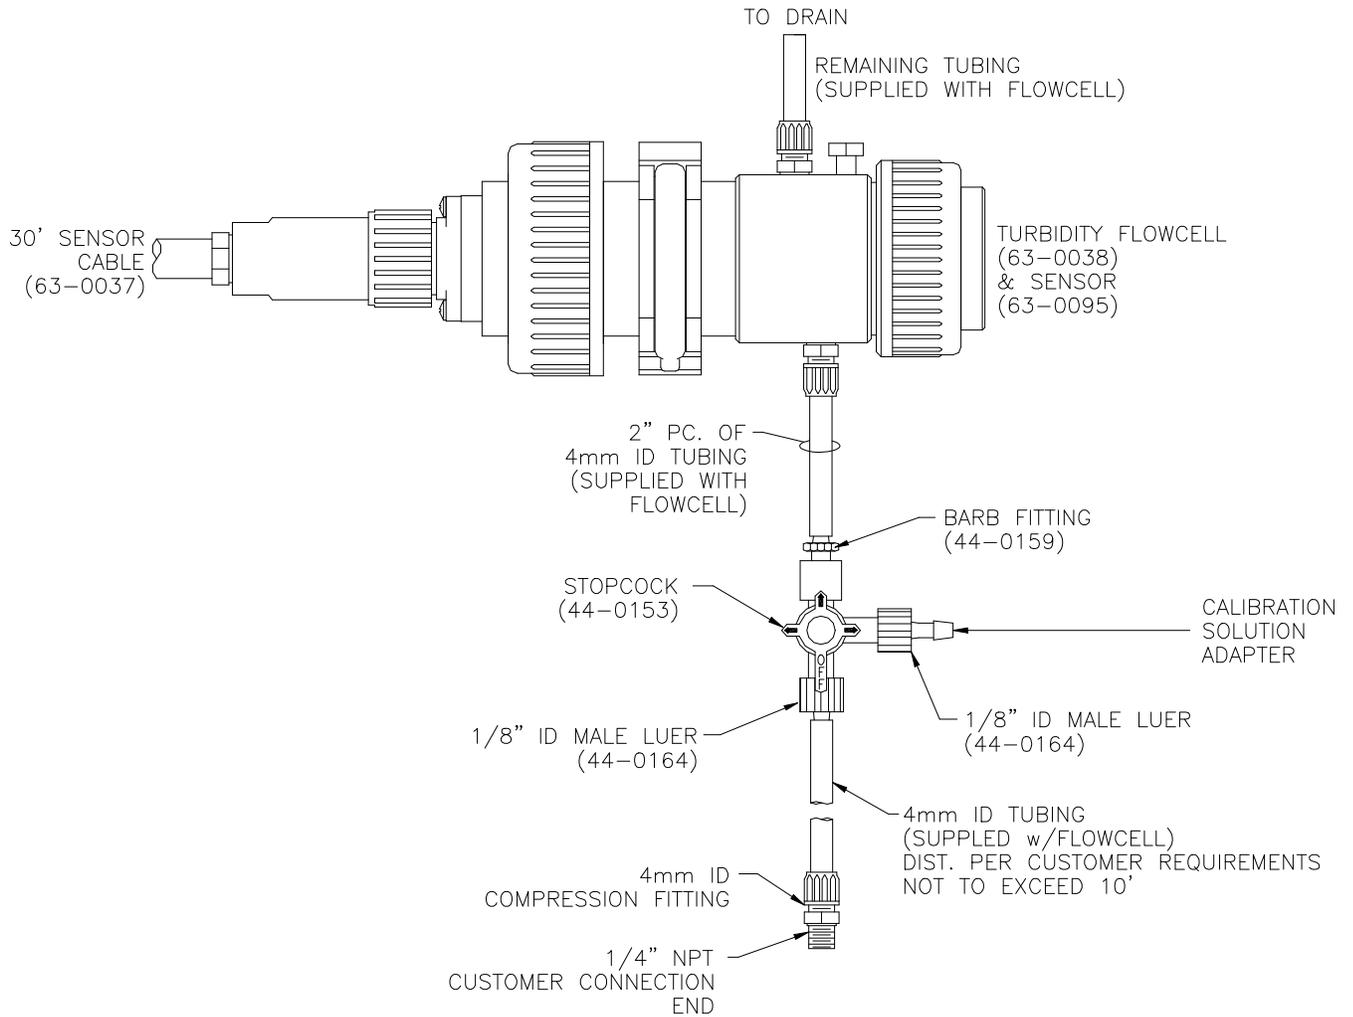

Figure 7 - Flow "T" Recommended Piping
Figure 7 - Flow "T" Recommended Piping	12
Figure 7 below shows the recommended installation tubing arrangement for the turbidity system. A 3-way valve is supplied to facilitate calibration of the turbidity monitor. Install the valve as shown below so that turbidity standards can easily be introduced into the flowcell.
1. Refer to Figure 7 on page 11. The 3-way valve supplied with the flowcell provides a convenient port for draining the flowcell and introducing a calibration standard into the flowcell. As part of the system, a 60 cc syringe and 18" of silicon tubing is provided for use in feeding standard into the flowcell.